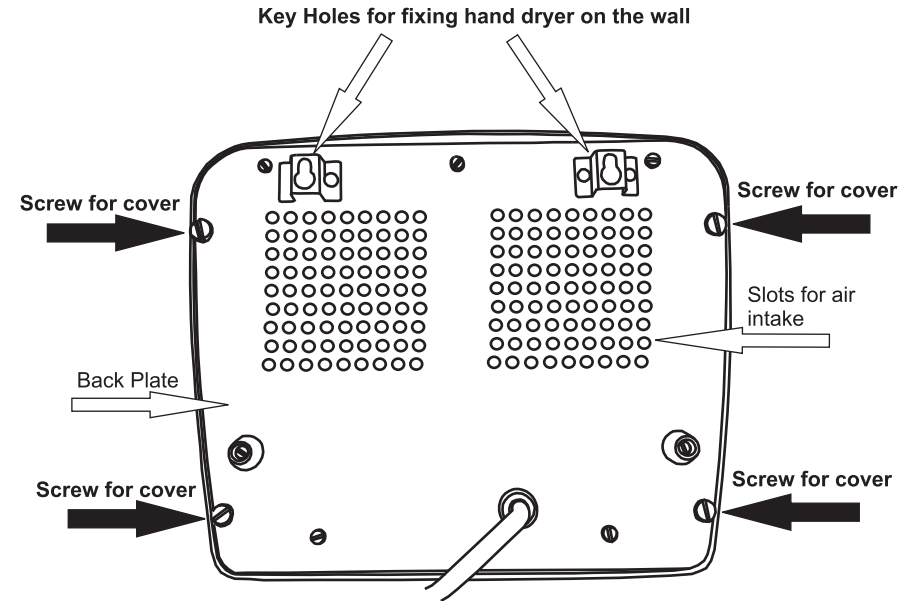

Fig.1
- 5) With help of keyholes provided on the back plate of the hand dryer (Refer Fig. 1), hang the hand dryer on the wall.
- 2) Remove the hand dryer from the wall and place it on a table with the back plate facing upwards as shown in Fig. 1.